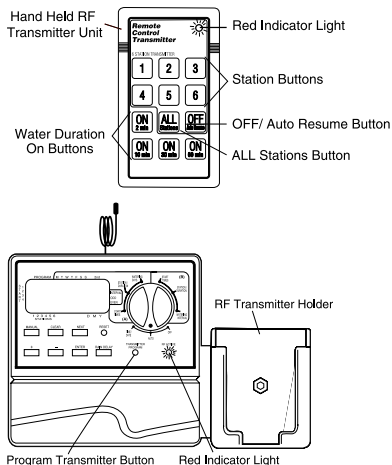

Figure 17: Watering Using Wireless Remote Features
- Press the desired station button on the Transmitter (number 1, 2, 3, etc.). The Transmitter will beep once, and the red light will turn on [See Figure 17].
minute durations). The Transmitter will beep three times to confirm the command. The Timer's red light will flash several times to acknowledge receipt of the wireless signal [See Figure 17]. During wireless watering, the Timer display will show the active station being watered (an "A" above the station number), show remote, and count down the number of minutes remaining for that station.
- Press the all button on the Transmitter. The Transmitter will beep once, and the red light will turn on [See Figure 17].
- Press the desired watering duration on button (choose 2, 10, 30, or 60 minute durations). The Transmitter will beep three times to confirm the command. The Timer's red light will flash several times to acknowledge receipt of the wireless signal [See Figure 17]. During wireless watering, the Timer display will show the active station being watered (an "A" above the station number), show remote, and count down the number of minutes remaining for each station. Note that each station will be activated, regardless of the programming in the Timer.